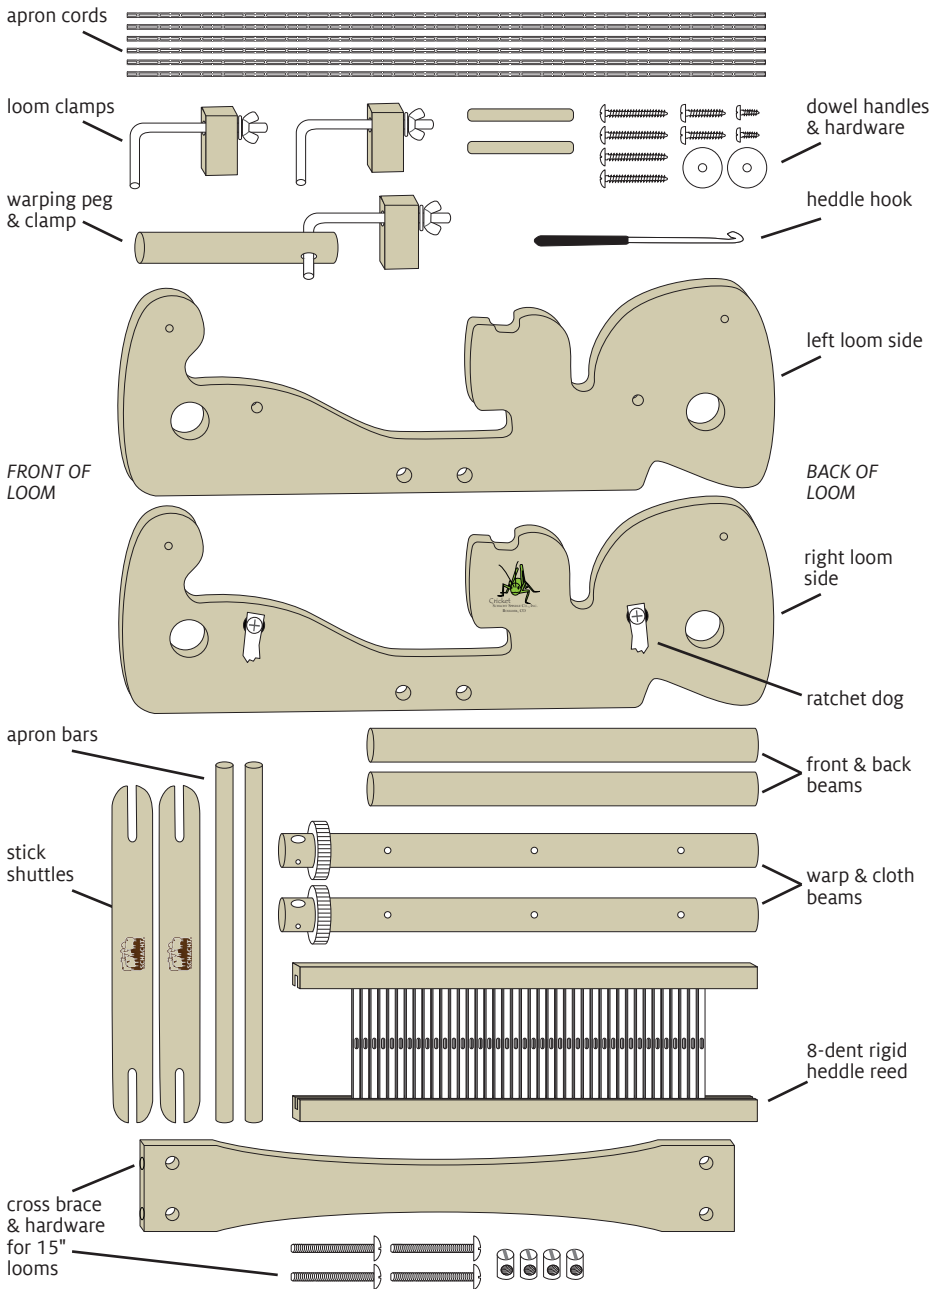

FIGURE 1: LOOM PARTS
1. Identify all loom parts and hardware (Figure 1).